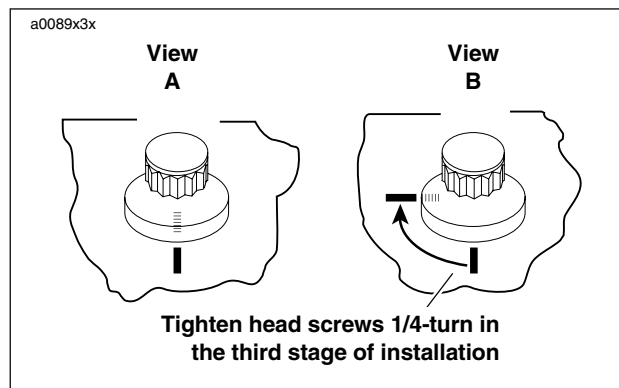

Figure 3-63. Tightening Head Screws
- c. See Figure 3-63. Mark cylinder head and head screw shoulder with a line as shown (View A).